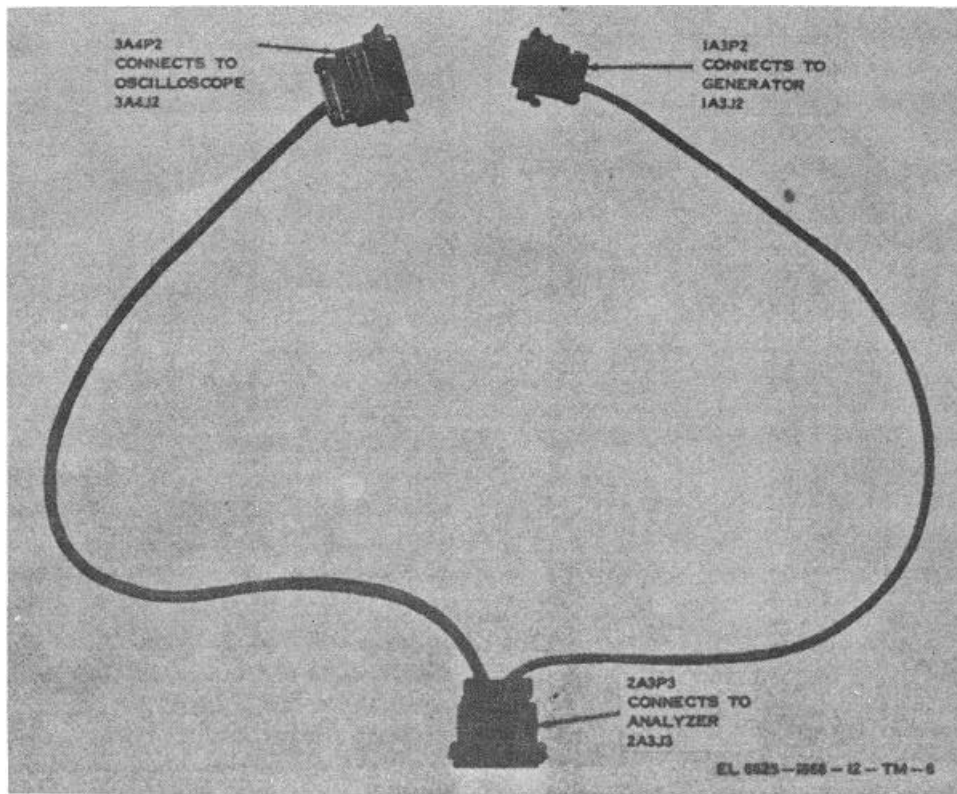

Figure 1-6. Cable Assembly, Special Purpose Electrical, Branched CX-12024/GGM-15(V).
f. *Cable Assembly, Special Purpose, Electrical CX-12105/U.* The CX-12105/U, hereafter referred to as power cable (fig. 1-6) is a three-wire cable, approximately 8 feet in length. One cable connects each major component to the ac power source.
g. *Cable Assembly, Special Purpose, Electrical Branch.* The CX-12024/GGM-16(V), hereafter referred to as interface cable (fig. 1-6) is a special purpose cable used to interconnect the generator, analyzer, and oscilloscope. The cable is approximately 2 feet long and has three connectors. Each connector is of a different size and will only connect to the appropriate unit.